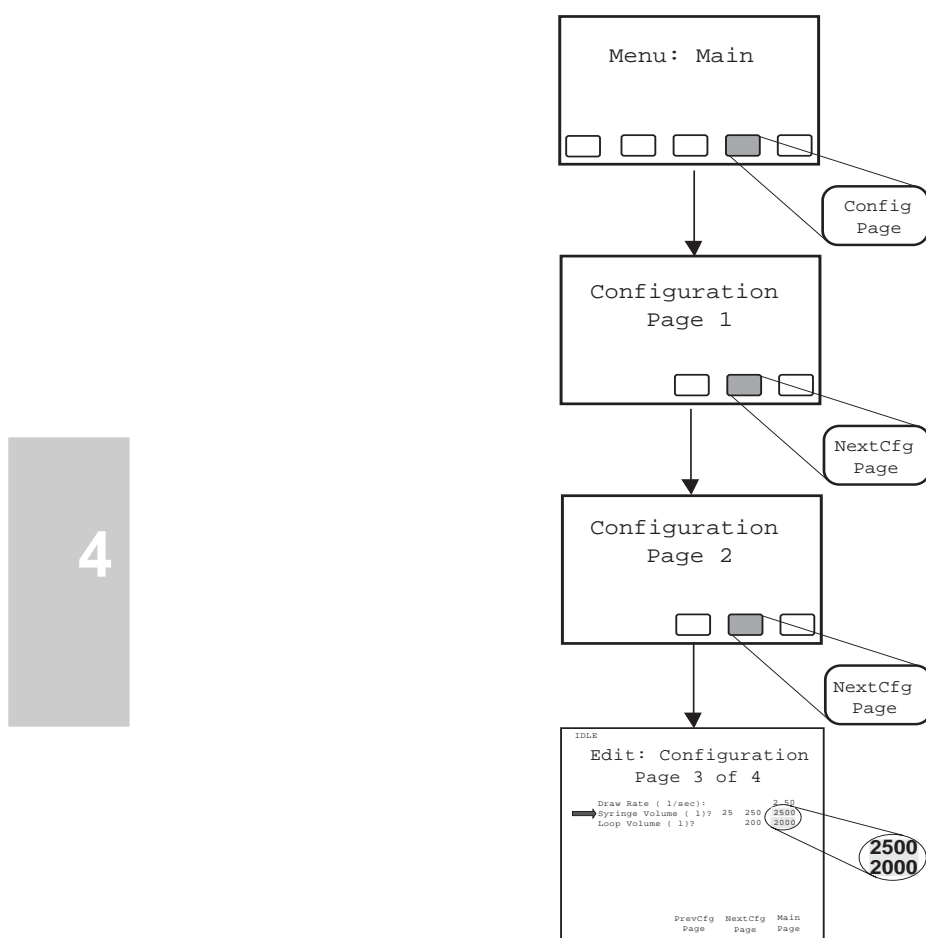

Figure 4-27 Entering the Semiprep Configuration
3. Enter the hardware change on Configuration Page 3 by pressing the keys indicated in Figure 4-27.